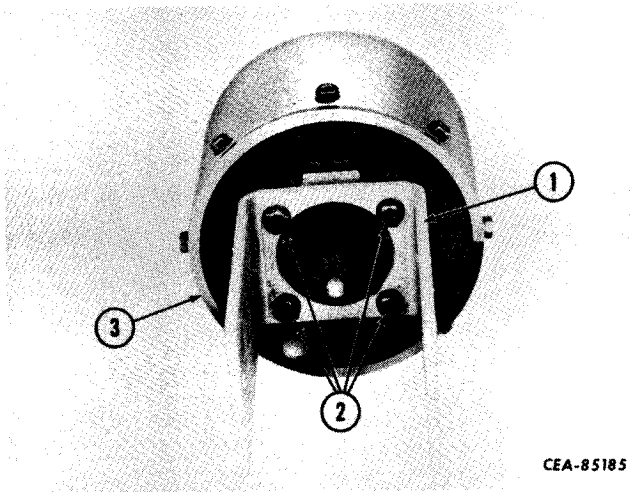

Figure 13-58
Remove the cap screws and lock washers (2, Fig. 13-58) that secure the bracket (1) to the air cylinder (3). Remove the bracket.